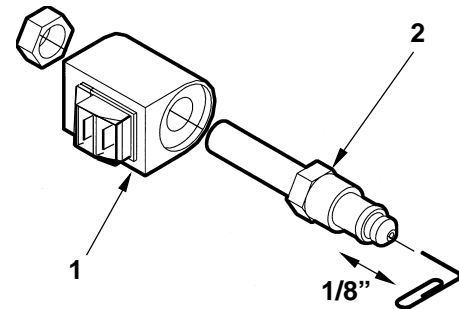

FIG. 2
2. Check the Valve Stem by removing the Coil Assembly (**Item 1, FIG. 2**). With platform on ground, unscrew the Valve Stem, (**Item 2, FIG. 2**) from the Pump. Push on the plunger that is located inside the Valve Stem by inserting a paper clip in the end. If the Plunger does not move freely (approximately 1/8") replace the Valve Stem. **When re-installing valve stem, torque hex nut to 30 lbs-in.**